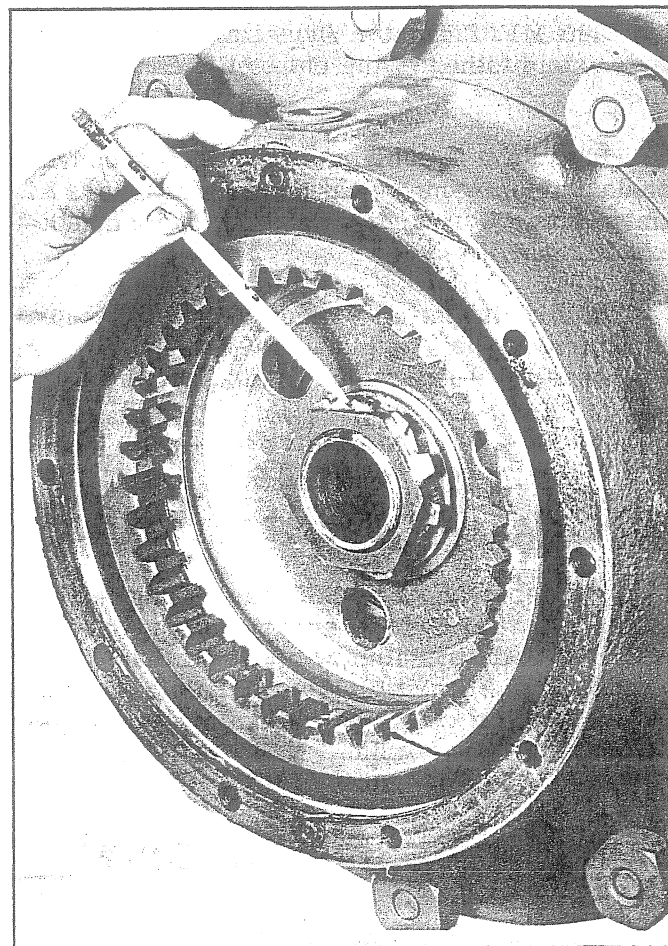

Fig. 5 - View Showing Nuts Locked with Tang
5. Straighten the tangs on the lock that secures the spindle nuts. See Fig. 5.
7. Install lock tang washer and outer nut. Tighten outer nut securely then bend tangs on lock to secure both nuts. See Fig. 5.